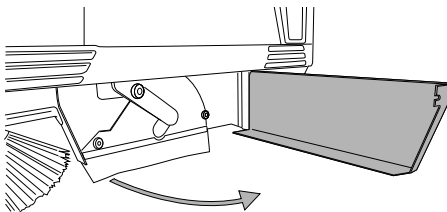

fig. 23
- Unscrew the knob and open the door on the left of the machine (fig. 23).
- Unscrew and remove the three knobs fixing the brush compartment cover (fig. 23).